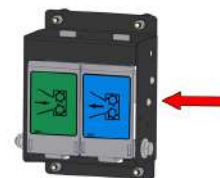

Figure 19 - Reverse Feed Control
6. Press the **BLUE** Reverse Feed Control (Figure 19).